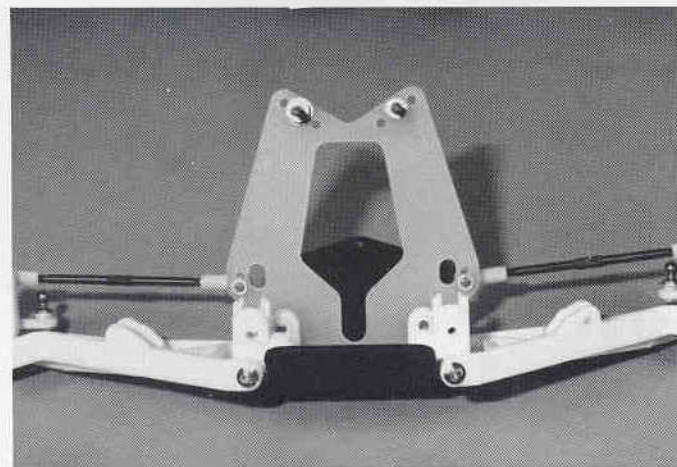

**Fig. 20**
**Figs. 20, 21 & 21A:** Open bag #7-4 and remove the #7305 black aluminum chassis nose plate. Back in bag #7-1 you will find four #6280 8-32 x 1/2" aluminum FHMScrews. Using a #2 Phillips screwdriver we are going to install the front bulkhead assembly to the #7305 nose plate. When you are done, your front end will look like fig. 21A. **DO NOT OVERTIGHTEN.** Tightening them too tight will strip out the nylon.